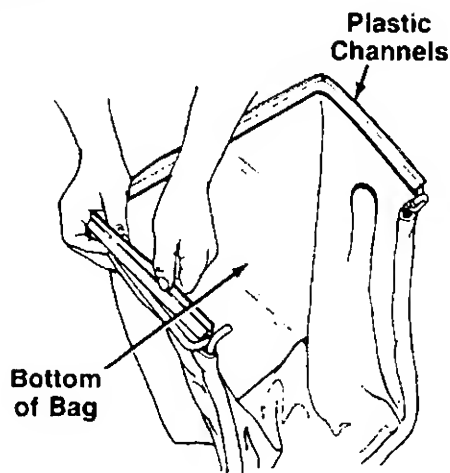

FIGURE 11.
3. Secure front of bag to front frame by slipping plastic channels on sides and bottom of bag over frame. See figure 11.